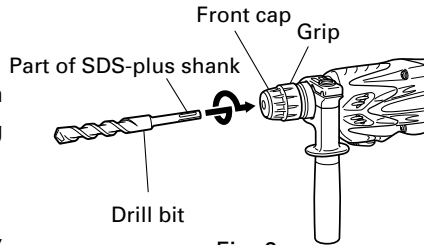
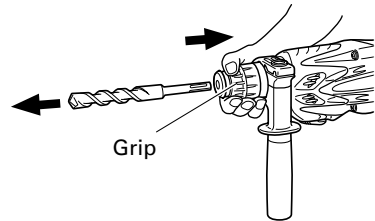

Fig. 2
Fig. 3
## 6. Mounting the drill bit (Fig. 2)
- (1) Clean the shank portion of the drill bit.
- (2) Insert the drill bit in a twisting manner into the tool holder until it latches itself (Fig. 2).
- (3) Check the latching by pulling on the drill bit.
- (4) To remove the drill bit, fully pull the grip in the direction of the arrow and pull out the drill bit (Fig. 3).